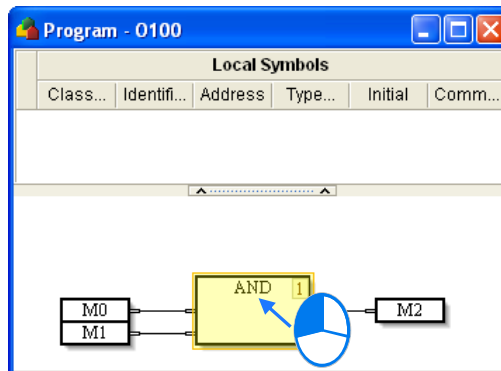

Figure 12-44 Clicking an object
- (1) The users have to click the object in which a comment will be inserted, as shown in figure 12-44.